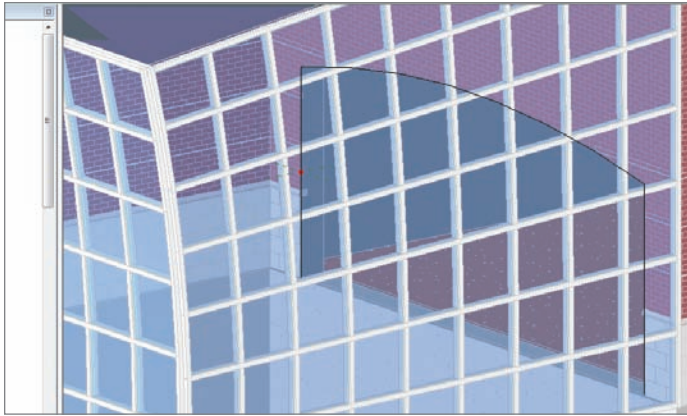

FIGURE 17.31 Picking the exterior edge for the sweep's path
14. Pick the exterior corners of the opening forming the arc and the two straight lines to either side of the opening (see Figure 17.31).